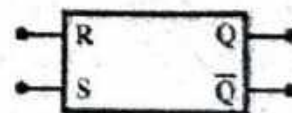

Fig. 5.33 Block Diagram
Ans. The S-R flip-flop has two inputs, namely Set (S) and Reset (R), and two outputs Q and \bar{Q} . The two outputs are complement to each other. The S-R flip-flop can be easily implemented using NOR gates or NAND gates. The block diagram of S-R flip-flop is shown in fig. 5.33.
To analyse the circuit of fig. 5.33, one must remember that the output of a NOR gate is 0 if any input is 1 and the output is 1 only when all inputs are 0. From the truth table, it is evident that four possible input combinations exist for the S-R flip-flop. The outputs for these four possible input combinations are described below.